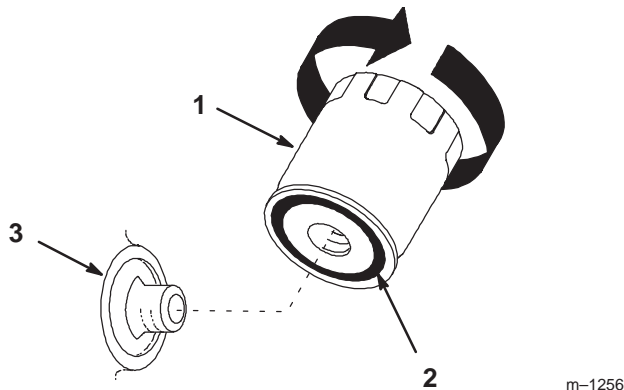

Figure 26
2. Remove the old filter and wipe the filter adapter gasket surface (Fig. 26).
3. Apply a thin coat of new oil to the rubber gasket on the replacement filter (Fig. 26).
4. Install the replacement oil filter to the filter adapter. Turn the oil filter clockwise until the rubber gasket contacts the filter adapter, then tighten the filter an additional 3/4 turn (Fig. 26).